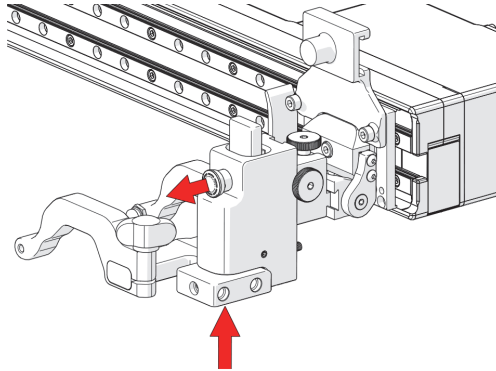

Figure 2-81 Press up and pull latch
1. Gently lift the heavy duty probe holder and simultaneously pull the latch to unlock the probe holder (see Figure 2-81 on page 110).